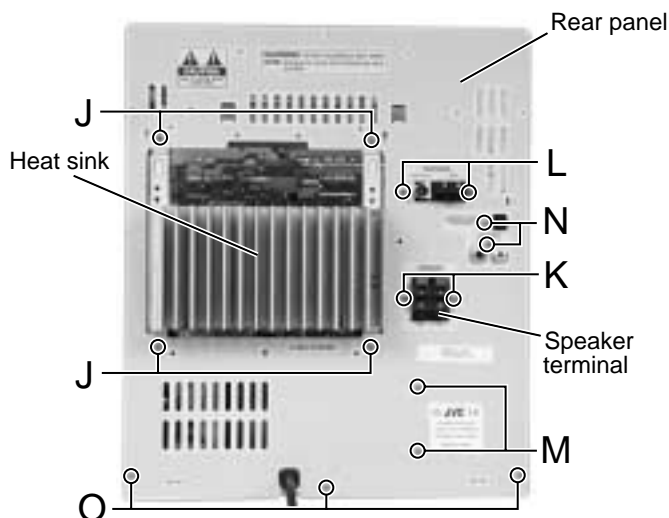

Fig.12
(See Fig.12 and 13)
■Removing the rear panel (See Fig.12)